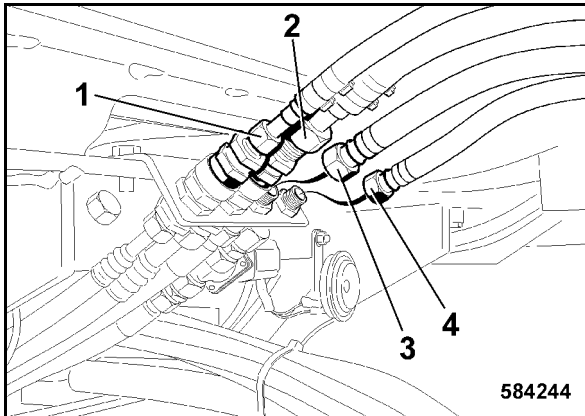

Fig. 224
- Connect the feed 1 (Fig. 224) and the return flow (2) for the air conditioning system with quick release couplings.
- Connect the feed (4) and the return flow (3) of the heating. (Observe the marks on the hoses).